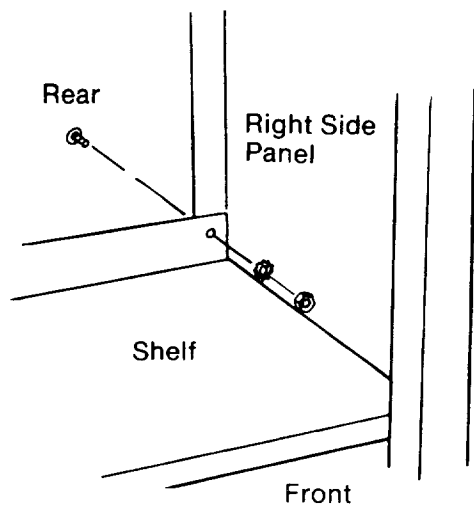

Fig. 38
15. Put a truss head bolt through the hole at the back, right corner of the *shelf*. This hole goes through the *shelf* and *right side panel*. (Figure 38)